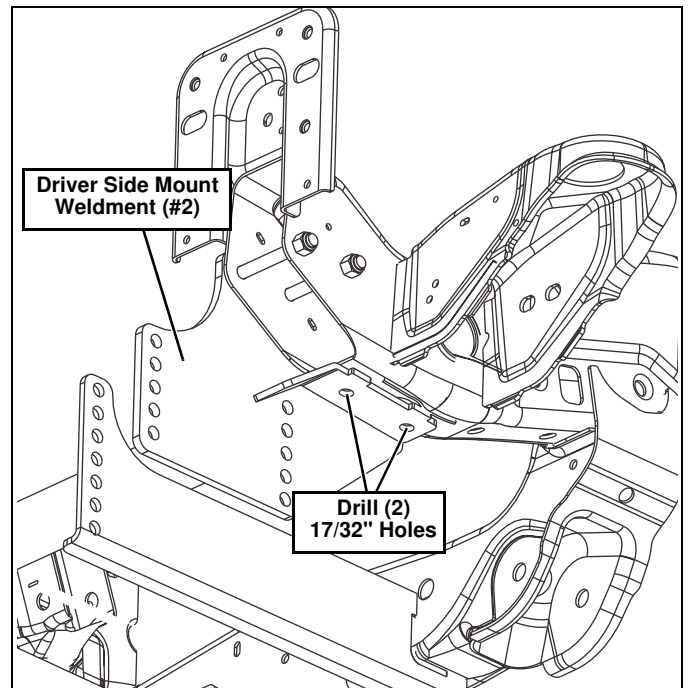

Figure 5
7. Using the Driver Side Mount Weldment (#2) as a template, center punch and drill two 17/32" holes into the bottom of the frame. (See Figure 5.)